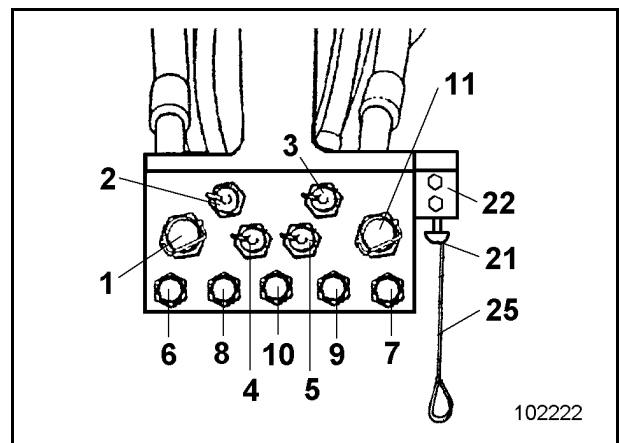

Fig. 3-12:
- If the oil level is at the "min" mark or below, filled in from the service station (Fig. 3-12:) through
- express coupling (8) for the lefthand engine
- express coupling (9) for the righthand engine
Engine oil can also be filled in through filler tube (2, Fig. 3-12:).